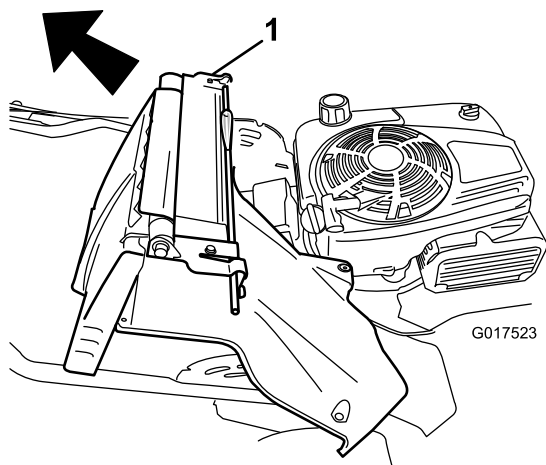

Figure 34
7. Remove the rear deflector and handle-lock lever assembly (Figure 34).